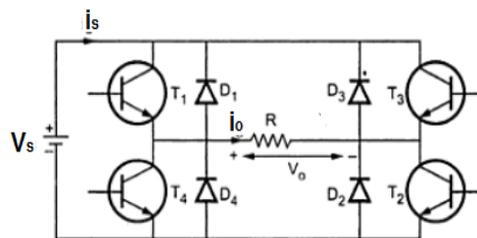

Figure 6.10
- A single phase full bridge inverter in Figure 6.10 has an RL load with $R=100\ \Omega$. The inverter frequency is 60Hz and DC input voltage $V_s=220V$. Calculate the RMS output current.